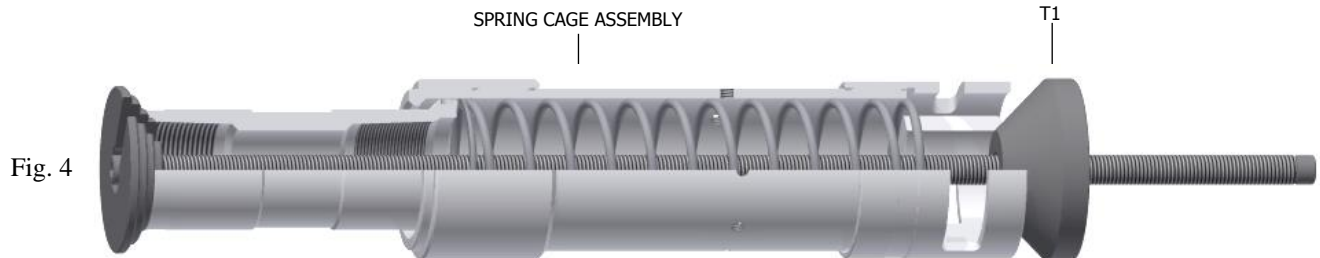

Fig. 4
K-1.1.4) Compress compression spring (4) with assembly tool (T1) (Fig. 4).